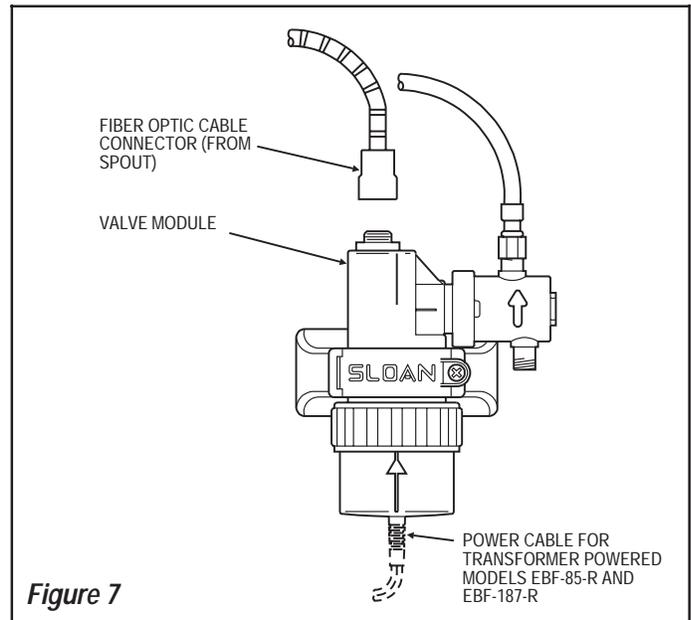

Figure 7
Step 7 — Connect Fiber Optic Cable (Figure 7)